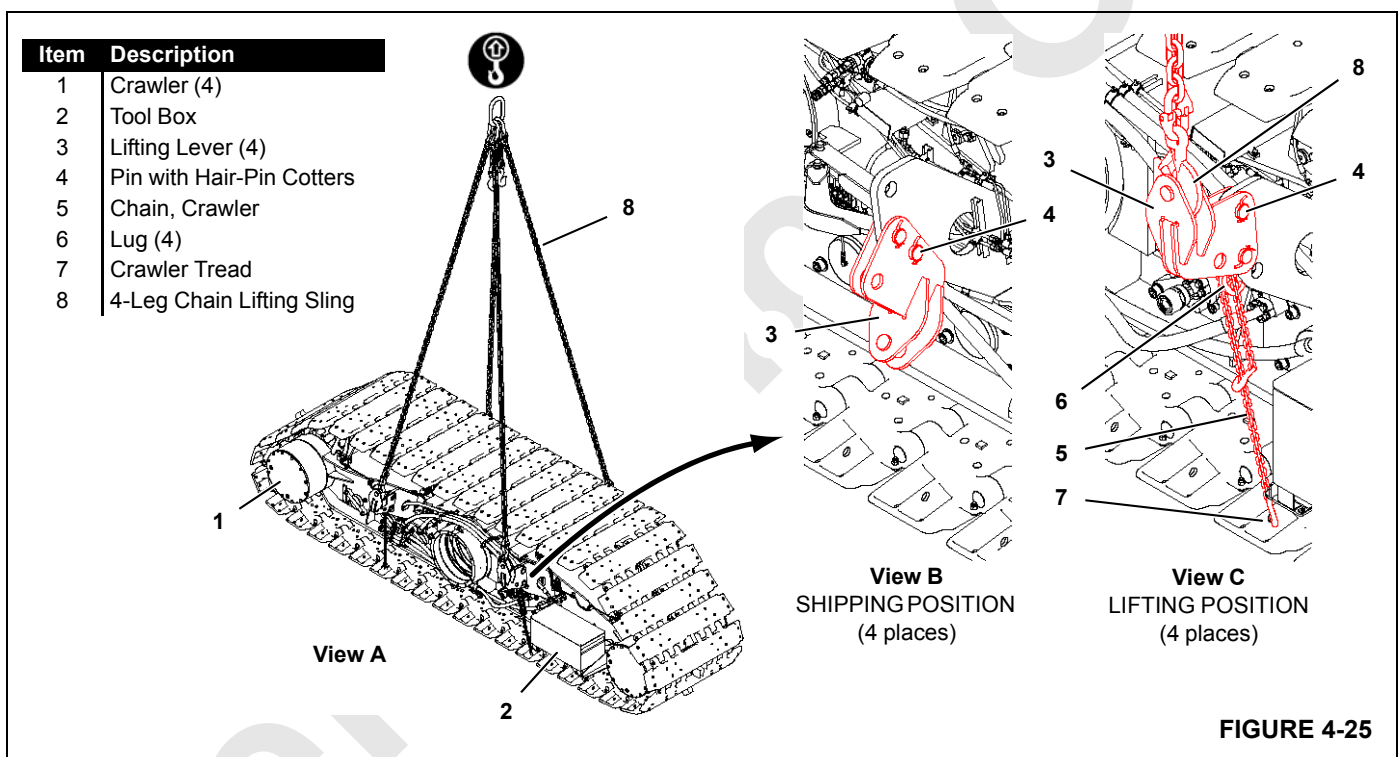

FIGURE 4-25
See Figure 4-25 for the following procedure.
- Move the handle for tensioner select valve (12, View G) UP to operate right crawler tensioner (1).
- Move the handle for tensioner select valve (12, View G) DOWN to operate left crawler tensioner (2).
- Lift the crawler as shown in Figure 4-25.
- Remove hydraulic hose (9, View B) from storage on the crawler and connect the hose to coupler (10). This step allows the crawler motors to rotate freely during the remaining steps.
- Connect hose assembly (13, View H) to the brake release coupler at hand-held accessory valve (11) and to coupler (14, View B).